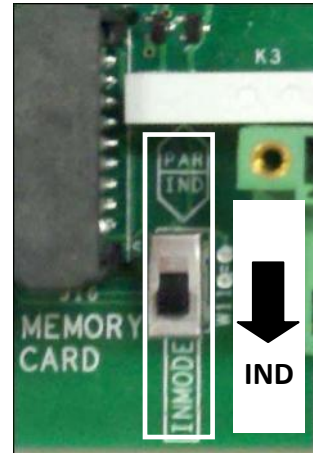

Figure 2:13: Independent MPPT Configuration Switch
- Ensure the parallel jumper wiring (see Figure 2:14b), is **not present**.